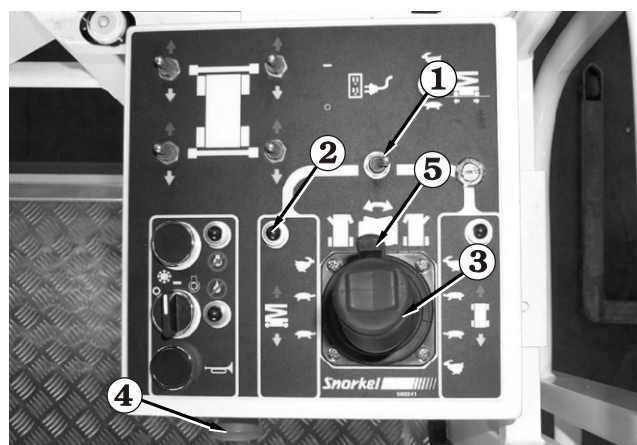

Figure 8.21
2. Set the **Lift/Drive Selector** ① (see Figure 8.21) to lift (left).
3. Squeeze and hold the **Safety Control ⑤** against the **Joystick Controller ③** (see Figure 8.21).
4. Push the **Joystick Controller ③** forward to raise the platform, or backward to lower it. The further you push the **Joystick Controller ③** forward, the faster the platform rises. There is only one down speed.